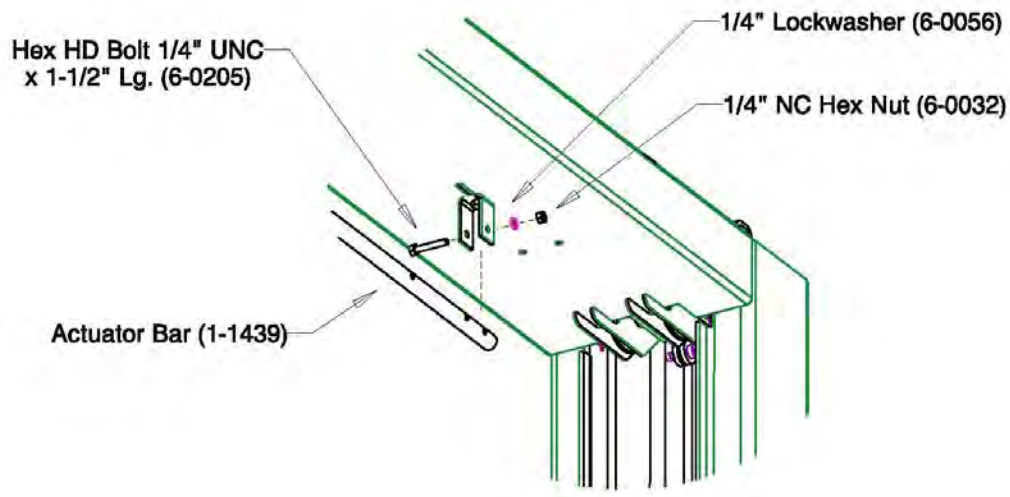

Figure 8: Actuator Bar Installation
Note: The safety shut off will disconnect the power to the power pack when an obstruction touches the padded bar or the carriages reach their maximum height. The safety shut off switch is factory pre-wired. Refer to Figure 8.
2. Attach the Actuator Bar to the Actuator Mounting Bracket using one (1) ¼" NC x 1 ½" lg. hex head bolt, one (1) ¼" lockwasher, and one (1) ¼" NC hex nut. Orient the Actuator Bar so that the last hole (out of the set of 3) is used when mounting. (**Figure 8**)